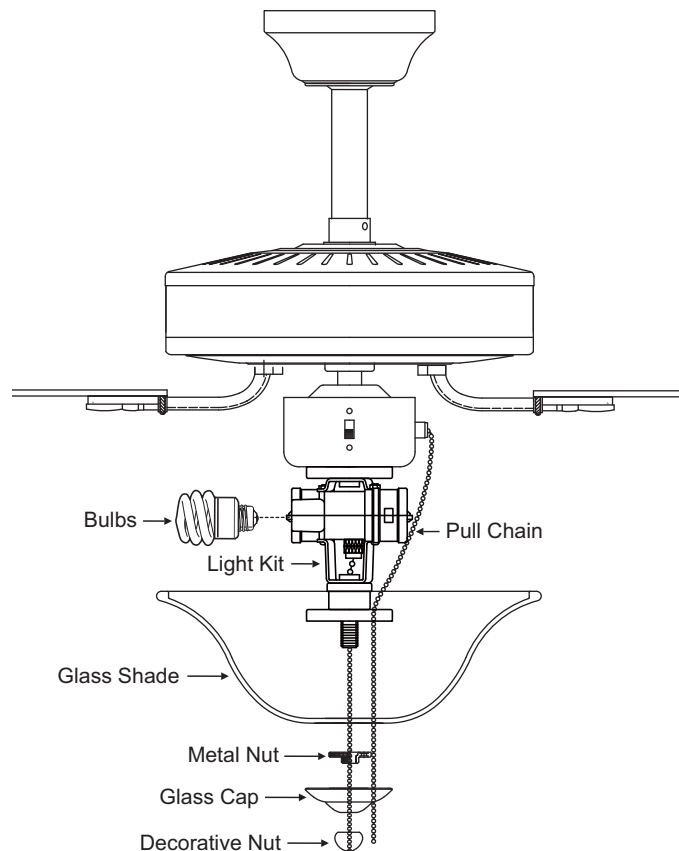

Figure 19
1. Install 2 x 13W compact fluorescent bulbs (provided). (Fig. 19)
2. Remove the decorative nut, glass cap and metal nut from the light kit. Place glass shade over the light kit stem, secure with the metal nut (rubber side on the top) glass cap and decorative nut. Do not overtighten. Secure tightly the glass frame and decorative nut. (Fig. 19)
3. Insert the 2 pull chain through the eyelet in the shade and cap. (Fig. 19)